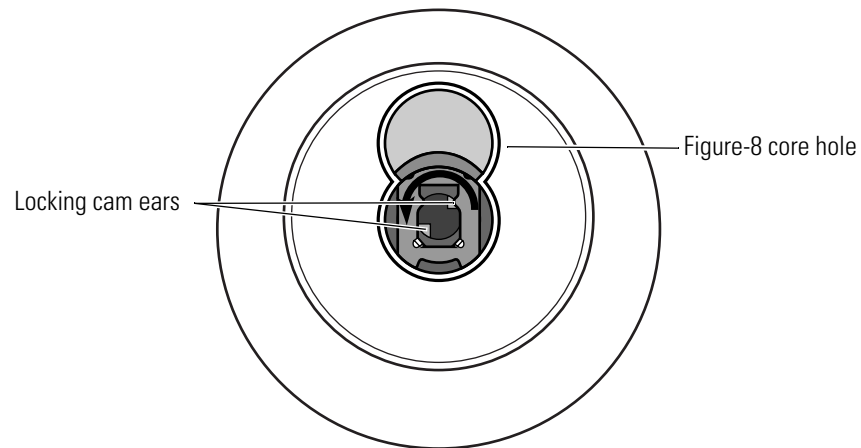

Figure 3.31 Correct position of the C function inside locking cam
- Before you install the core and throw member, you can see that the inside locking cam is not positioned as shown in Figure 3.31. Perform the following steps to reposition the inside locking cam.
1. Be sure the inside knob locking cam, which engages the throw member, is rotated. Looking into the figure-8 core hole in the inside knob, turn the locking cam ears to match the position shown in Figure 3.31.